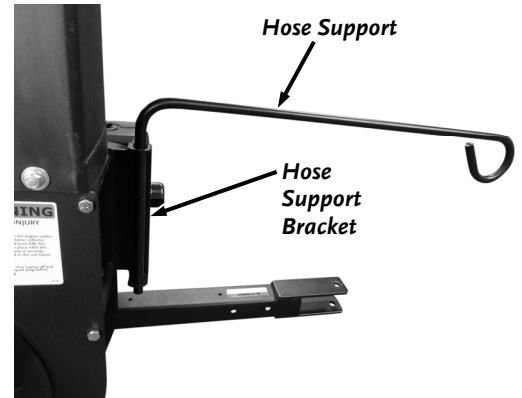

Figure 17
2. Slide the Hose Support into the Bracket holes (**Figure 17**).